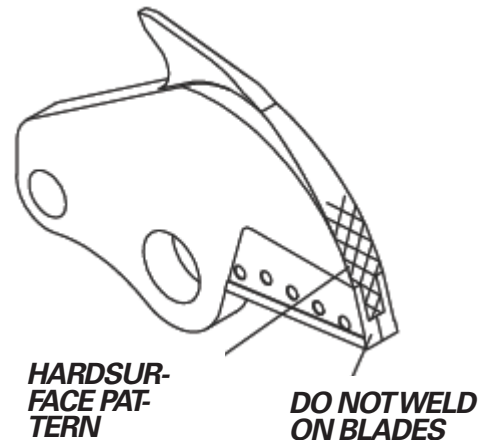

FIGURE 7-26
6. To protect the area just built up, hardsurface the front face of the upper shear from the cutting blades about halfway up to the ripper tooth by applying single passes of AWS E7018 build up in a diamond pattern of approximately 1½" (38 mm; see Figure 7-26). This will serve as an underlayment for the hard-surface rod. **DO NOT** weld on the blades or in the blade seat. **DO NOT** apply hardsurface directly to the parent material. **DO NOT** apply build up and hardsurface to the front of the cutting blades.